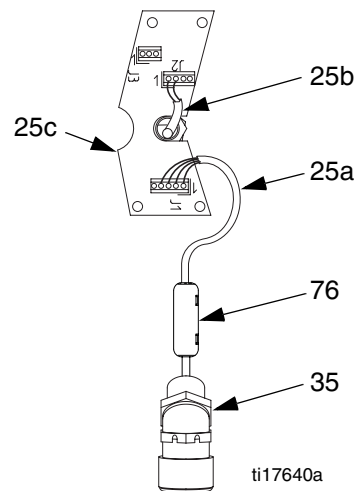

FIG. 27. Circuit Board Wire Connections
- a. See FIG. 27. Disconnect the transducer cable (25a) from J1 on the circuit board (25c). Remove and retain the ferrite (76).
- c. Disconnect the IS circuit field wires from J2 and J3 on the circuit board, and from the two terminal blocks (46). Disconnect the position sensor wires from the two terminal blocks. Retain the terminal blocks.
- e. Unscrew the conductive strain reliefs (74a and 35) from the gear housing. Pull the 45° strain relief (35) and the transducer conduit out of the housing. Do not disconnect the transducer from the outlet port (P).
- f. Disconnect the position sensor and attaching parts from the gear housing (1). See page 24. Be sure to remove the position sensor adapter (78). Retain these parts.
11. Unscrew the locknuts (15) from the tie rods (3). Remove the entire fluid section. Unscrew the tie rods (3) from the gear housing.